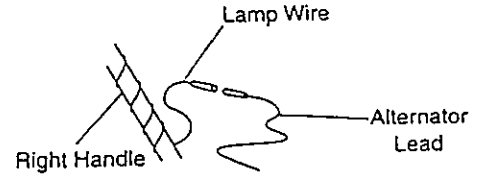

FIGURE 14
- Wrap the wire from the lamp down the right handle until the wire can be plugged into the alternator lead wire under the fuel tank. See figure 14.